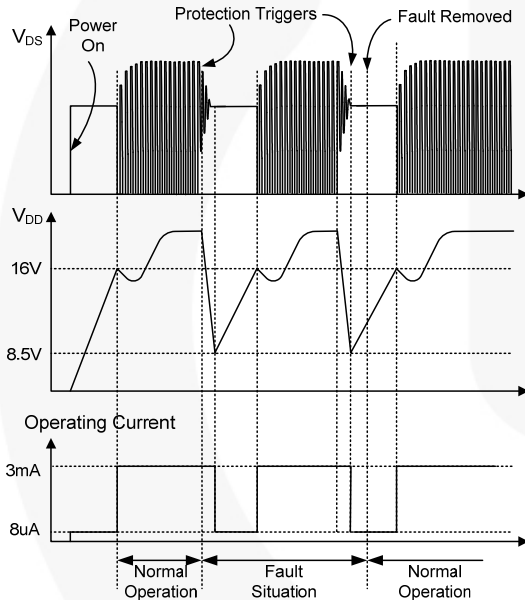

Figure 26. Auto-Restart Operation
Once a fault condition is detected, switching is terminated and the MOSFET remains off. This causes  $V_{DD}$  to fall because no more power is delivered from the auxiliary winding. When  $V_{DD}$  falls to  $V_{DD-OFF}$  (8.5V), the protection is reset and the operating current reduces to startup current, which causes  $V_{DD}$  to rise. FAN6862H(HR) resumes normal operation when  $V_{DD}$  reaches  $V_{DD-ON}$  (16V). In this manner, the auto-restart can alternately enable and disable MOSFET switching until the fault condition is eliminated (see Figure 26).